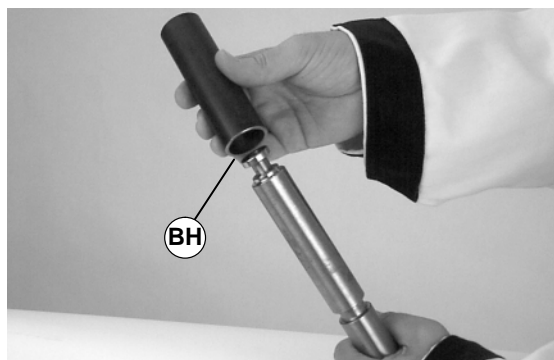

Figure 44
- Slide the sleeve of tool (part # 450282) (BH of Figure 44) over bearing.